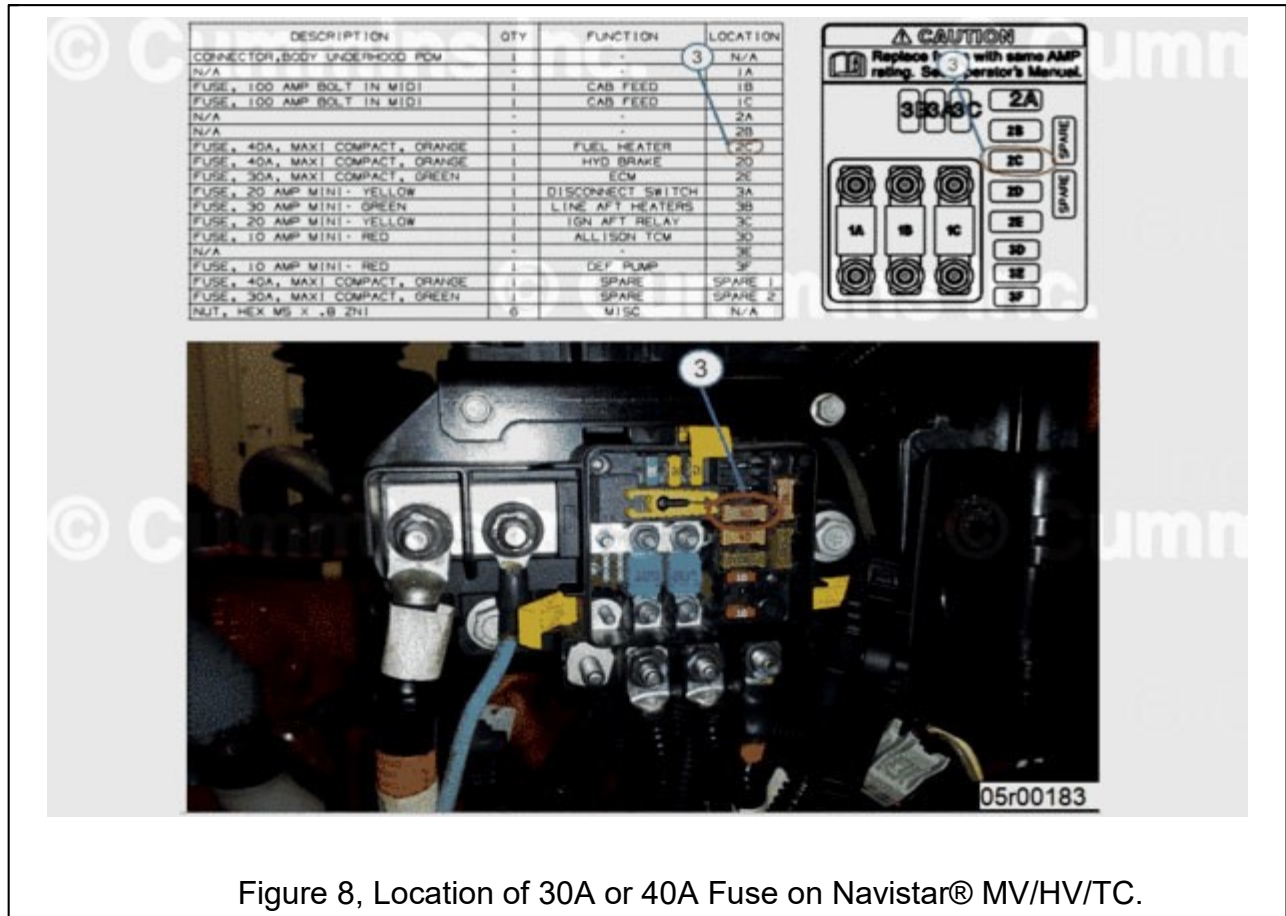

Figure 8, Location of 30A or 40A Fuse on Navistar® MV/HV/TC.
2. Remove 30 or 40 amp fuse located at 2C cavity. See Figure 8 below.